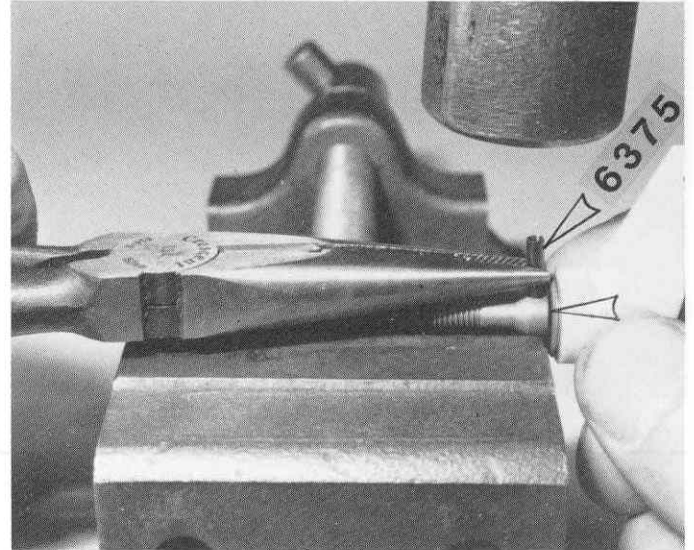

Fig. 111
□ **Fig. 111** For this step you may need 3 hands, so get a friend to help you. Set the axle on a vise or a flat surface. Hold the roll pin or slotted pin with a needle nose pliers and align the pin with the hole in the axle. Lightly tap the pin in the axle so it's evenly spaced.